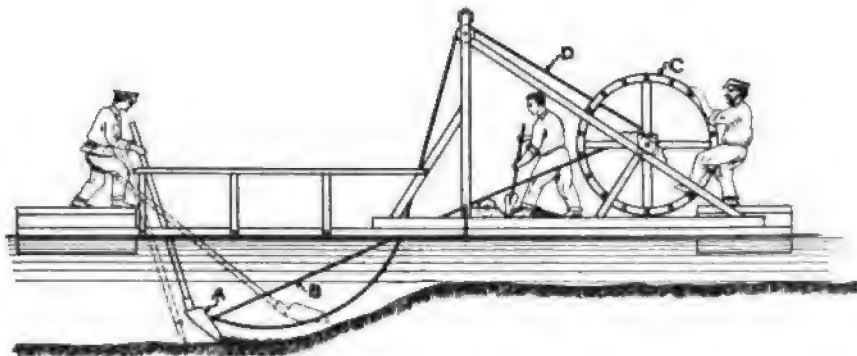

Fig. 5
The modern dipper dredge is simply an evolution of the primitive machine shown in Fig. 5. There has been a gradual development in this line for the last century, and practically all of the improvements in this type of machine have been made in the United States.
**Primitive Development.** The first designers of dredging machinery simply attempted to imitate the movements of a hand operated shovel or spade. By reference to Fig. 5 it will be seen that the movements of the shovel in this machine are quite similar to the movements of an ordinary spade. There is a long period of development between the crude shovels of the first machines and the huge dippers of the modern dredges. Nevertheless, the development was a logical one, and the modern dipper dredge is the result of the combined efforts of many designers working under many conditions and at different periods. Several of the early designers also attempted to utilize
**Early Types.** One of the earliest types of dredging machines is illustrated in Fig. 5. A is a large shovel which is dragged along the bottom of the stream by means of the rope B and wheel C. D is a rope for raising the shovel up to the top of the barge floor so that the contents of the shovel may be dumped. An interesting feature in connection with the machine just illustrated is that a machine identical in principle and almost in every detail of construction is now in oper-